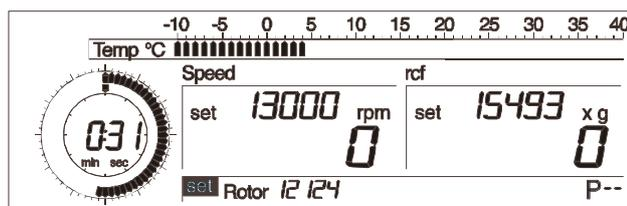

Fig. 5.20:
- Turn the left rotary knob until “set” appears in front of the option “Rotor” on the display (Fig. 5.20).